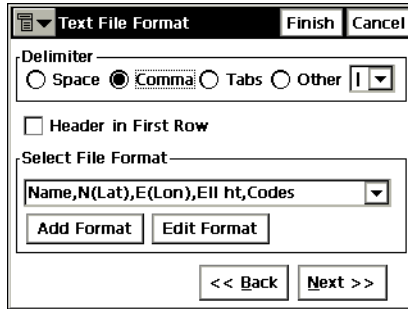

Figure 5-8. Text File Format
1. Specify the format in which data is stored in the file (Figure 5-8).